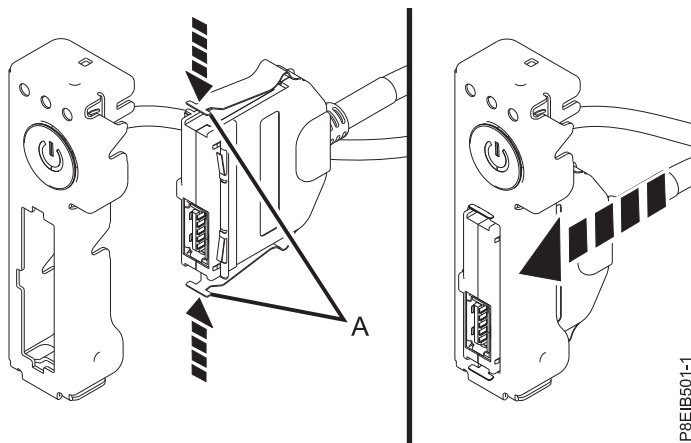

Figure 70. Attaching the front USB cable and connector to the power switch
3. While pressing in the latches (A), connect the front USB cable and connector to the power switch. See Figure 70.